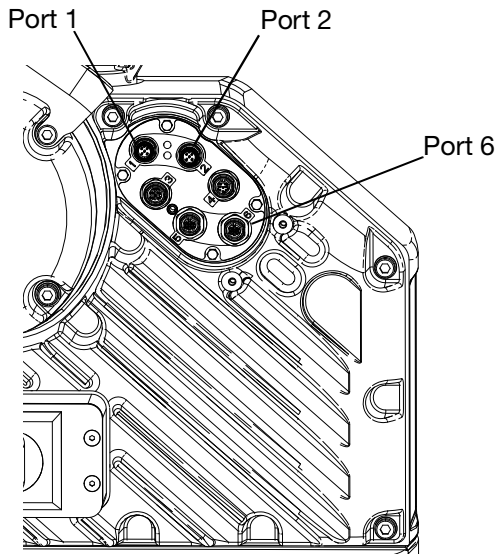

FIG. 39: Driver Port Locations
6. Using the four 10-32 mounting screws included with the kit, mount the base (CD) in the holes you drilled.
7. Reattach the CGM (CC) on the base (CD) with the two screws (CB) that were removed in step 5.
8. Reattach the access cover (CA).
9. Connect the CAN cable included in the kit to either port 1 or port 2 (whichever is available) on the driver. See FIG. 39.